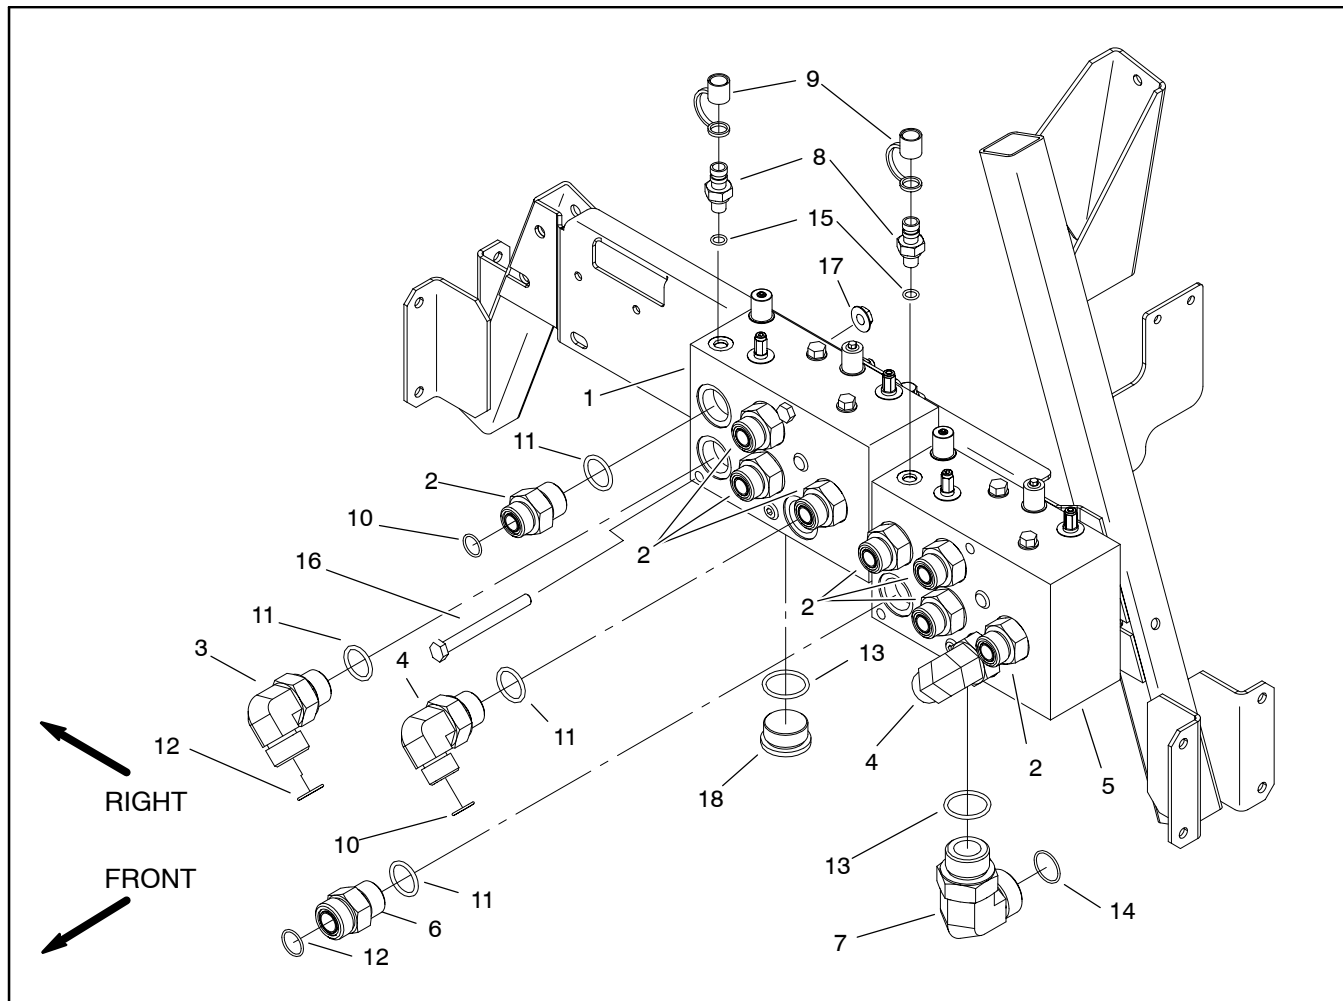

Figure 71
4. Remove hydraulic manifold from the frame using Figure 71 as guide.
1. Install hydraulic manifold to the frame using Figure 71 as guide.